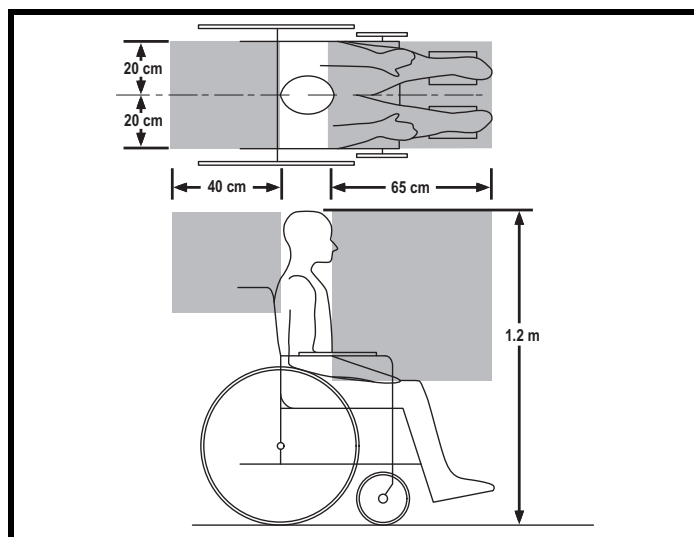

Figure 19. The Kids UP Recommended Safety Zone
- Follow the specifications for the recommended safety zone. **See figure 19.**